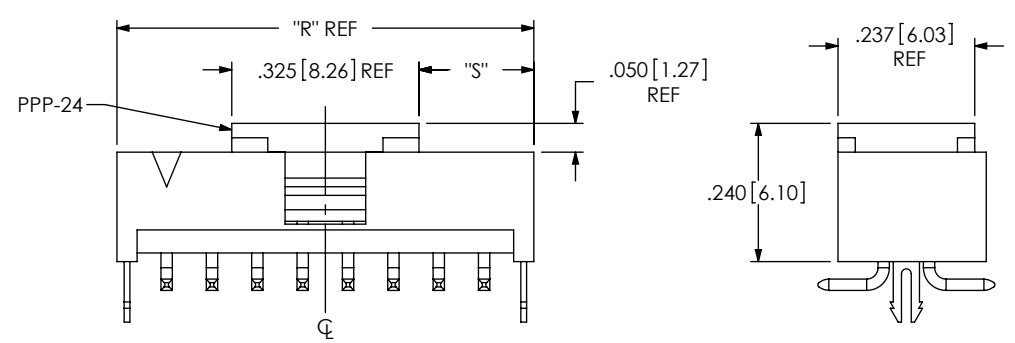

FIG 4
-P: PICK & PLACE PAD (USE PPP-24, SEE FIG 4, SHT 2) (-SM OPTION ONLY) (ONLY AVAILABLE IN 04-25 POSITIONS)